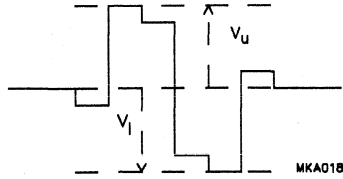

Fig.3 Non-linearity definition.
4. Measured as $100\% \times (|V_u| - |V_l|) / (|V_u| + |V_l|)$; see Fig. 3.